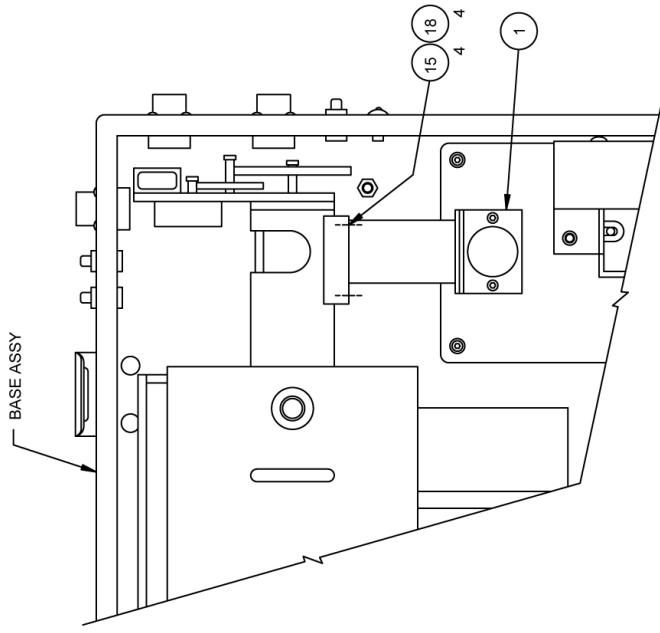

FIGURE 2
- REFER TO FIGURE 2. INSTALL UVB PRISM ASSY USING ITEMS 15 AND 18.